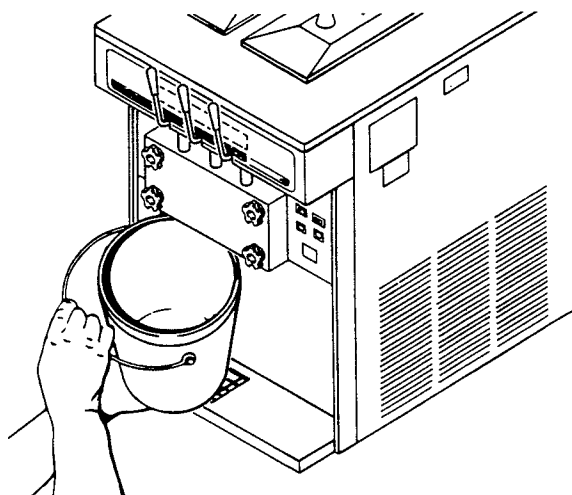

Figure 12. Spigot Opened and Solution Draining
- E. After five minutes, place a bucket under the spigots and open all three spigots to drain sanitizing solution. When solution has drained, place the CLEAN-OFF-ON switch in the OFF position. Allow the freezer barrel to drain completely (Fig. 12).